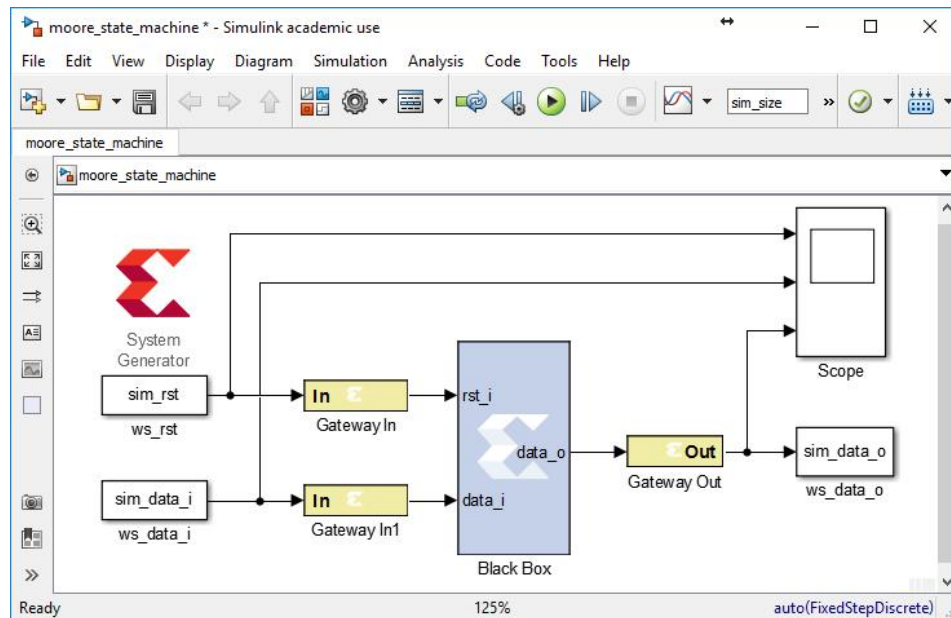

Fig. 9. Connected all simulink blocks
9. Connect the Black Box with Gateway as in Fig. 9.